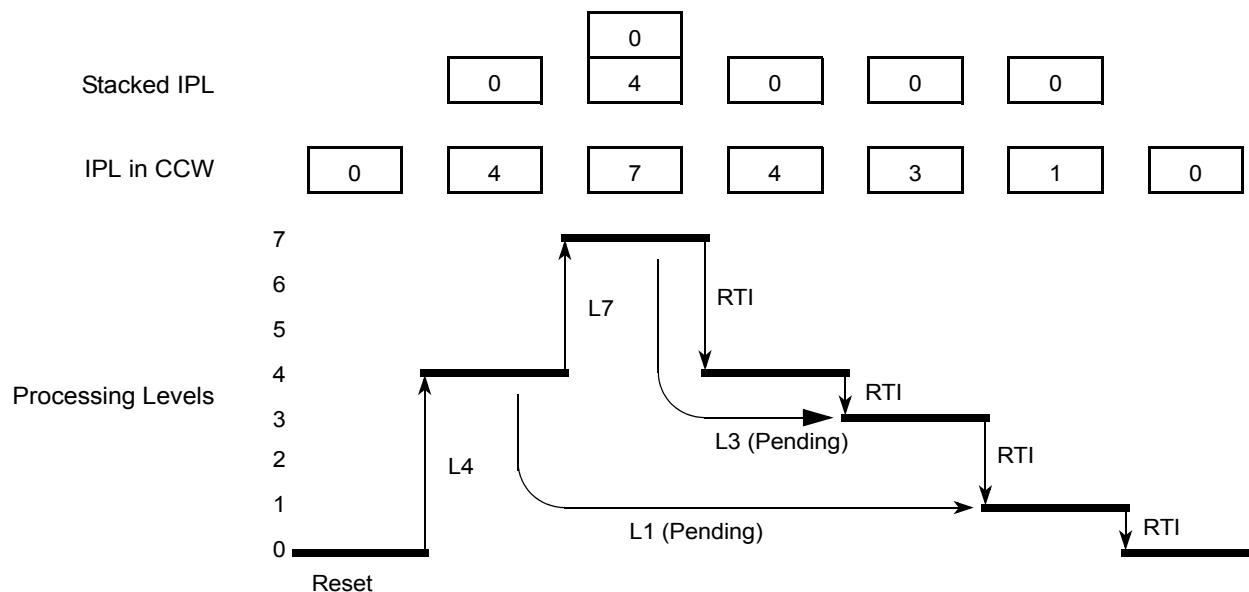

Figure 62. Interrupt Processing Example
- I-bit maskable interrupt requests can be interrupted by an interrupt request with a higher priority, so that there can be up to seven nested I-bit maskable interrupt requests at a time (refer to Figure 62 for an example using up to three nested interrupt requests).